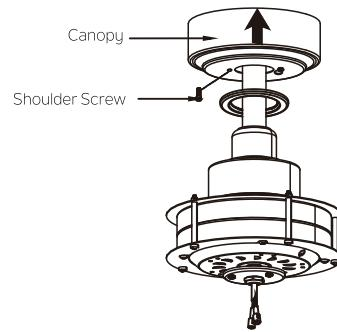

Fig. 15
**Step 2.** Assemble canopy by rotating key slot in canopy over shoulder screw in mounting bracket. Reinstall the shoulder screw that was previously removed, then retighten two shoulder screws securely.(Fig.15)